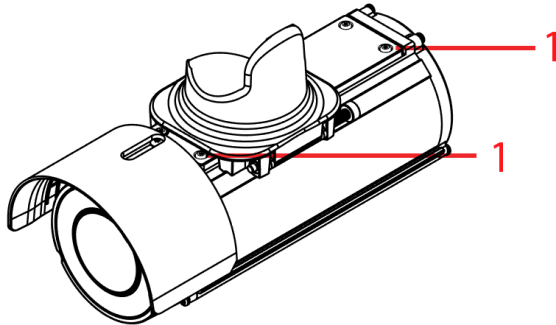

Figure 10
E. Securely attach the mounting arm plate to the camera with the four T10 screws (1) (Figure 10) on the mounting arm plate.